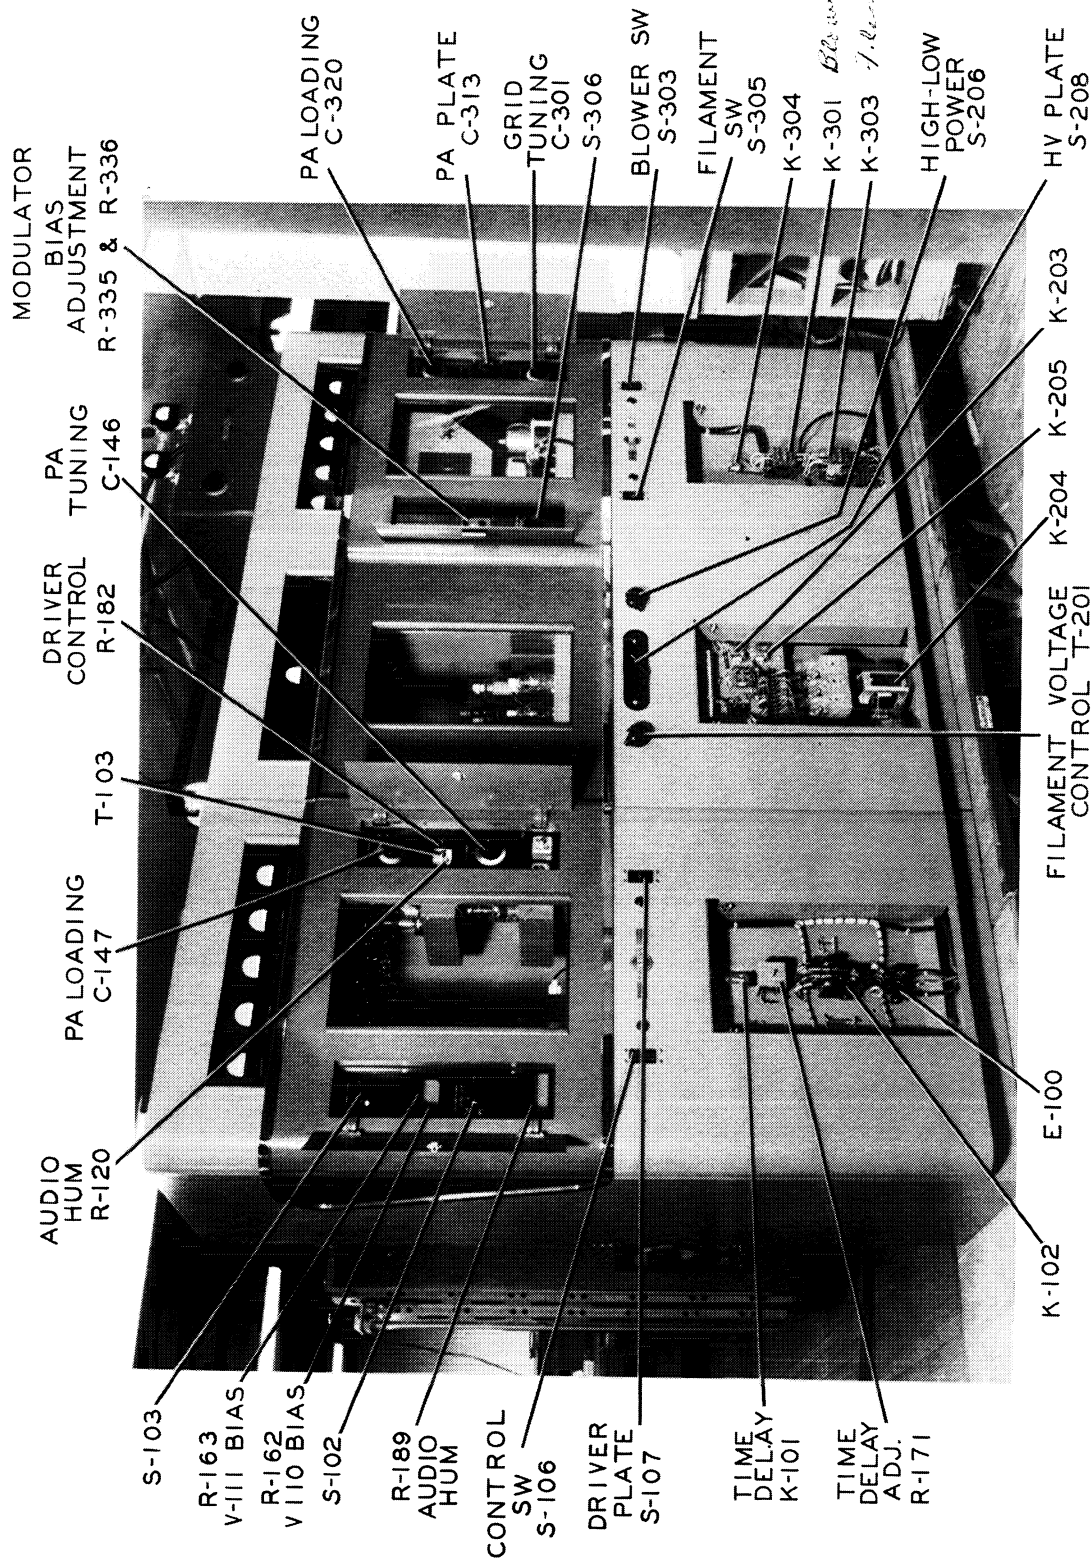

Figure 3-1. 2LE/M Operating Controls and Parts Arrangement, Front View.
k. Rotate the crystal selector switch, S-101, to the desired position. The location of this switch is shown in figure 3-1.
3.3. DESCRIPTION OF OPERATING CONTROLS. (See figure 3-1.)
Multimeter switch S-102 is a two-pole seven-position switch located behind the left door on the front of the driver cabinet as shown in figure 3-1. This switch inserts multimeter M-104 into any one of seven driver circuits. Table 3-1 lists the multimeter switch positions and typical readings for these circuits. The full scale reading of the multimeter is indicated for each switch position.
Power change switch S-103 is located behind the left door on the front of the cabinet as shown in figure 3-1. A resistor is connected in series with the high voltage to the r-f driver amplifier plate circuit. The power change switch, S-103, is connected to short this resistor for high power operation and remove the short for tuning operation. This switch is for initial tuning and may be used when large corrections of tuning are necessary, otherwise it is always used in the HIGH power position.
The first buffer tank circuit trimmers, C-114 and C-115, are screwdriver adjustments located behind the lower right inspection plate. The location of these two trimmers is shown in figure 3-1. They should be adjusted for maximum grid drive to the 807 rf driver stage. The trimmers are connected in parallel as shown in figure 8-2. One of the trimmers should be adjusted to give a good tuning range with the second trimmer.
C-125 and C-126, the 807 plate circuit trimmers, are screwdriver adjustments located behind the upper right inspection plate. The location of these two trimmers is shown in figure 3-1. They should be adjusted for maximum grid drive to the driver amplifier. The trimmers are connected in parallel as shown in figure 8-2. One of the trimmers should be adjusted to give a good tuning range with the second trimmer. The first trimmer adjustment opening should then be sealed with scotch tape and all adjustments made with the second trimmer.
RF drive control, R-182, is a screwdriver adjustment located behind the upper right-hand inspection plate as shown in figure 3-1. It is used to
The driver amplifier plate circuit tuning and loading controls C-146 and C-147 are located behind the right-hand door on the front of the driver cabinet as shown in figure 3-1. The PA TUNING Control is used to resonate the power amplifier plate circuit. An increase in PA grid current, once the PA grid circuit is resonated, is obtained by reducing the capacity of the PA LOADING capacitor, C-147, while simultaneously returning the power amplifier plate circuit to resonance by means of the PA TUNING control. Initial tuning should be done with the driver cabinet POWER CHANGE switch in the LOW position. Recheck these controls for possible reaction after the PA GRID has been tuned.